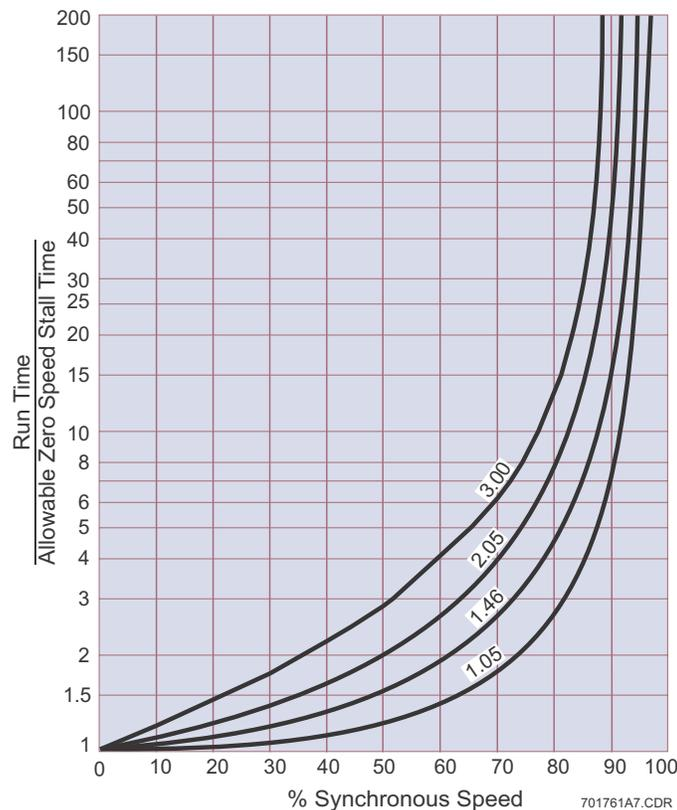

Figure 3-8: AMORTISSEUR WINDING PROTECTION
**The curves shown in the following diagram demonstrate how the trip characteristic of the amortisseur winding protection is adjusted for reduced voltage starts. For this example, curve 1 is taken from one of the family of curves in Figure 3-8: AMORTISSEUR WINDING PROTECTION on page 3-7.**